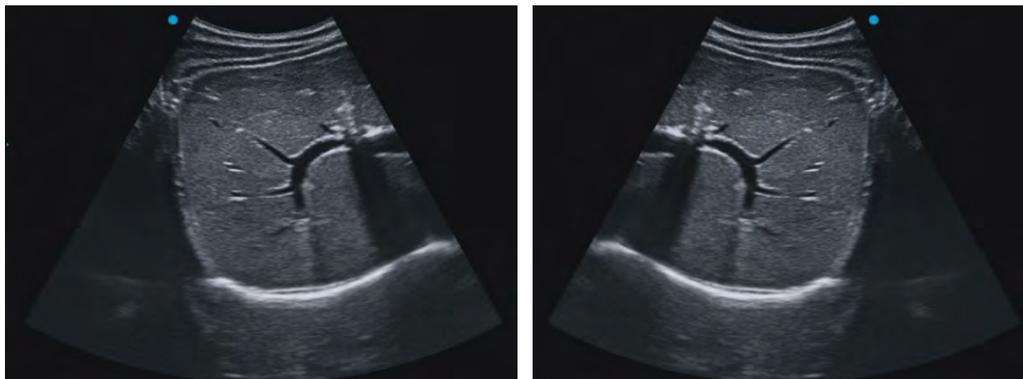

Fig.6-6 L/R Reversal
**Touchscreen:** If you tap on **B\_LR** in Live state, you can reverse the B-mode image left/right. The mark ● represents the orientation for the start of the probe scan, and it can be moved from the upper left to the upper right. See Fig. 6-6.